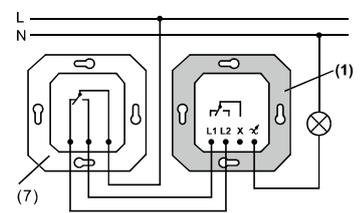

Figure 3: Changeover switch
(1) and the changeover switch
(7) according to the connection diagram (Figure 3)